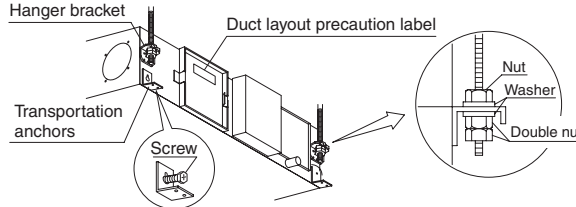

Fig. 4
(1) Install the unit temporarily.
- Attach the hanger bracket to the suspension bolt. Be sure to fix it securely by using nuts (M10, M12) and washers (M10 with external dia. 30 to 34 mm, M12 with external dia. 36 to 38 mm) (locally procured) from the upper and lower sides of the hanger bracket. (Refer to Fig. 4)